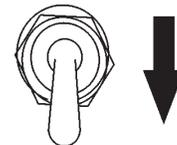

Figure 25. Operation Switch (OFF Position)
4. To shut-down the engine, place the generator's **operation switch** (Figure 25) in the **OFF** position.